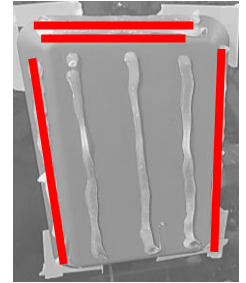

Figure 1. Silicone Area
1. Apply generous amount of silicones on the surface of vent cover except bottom area (See figure 1. Silicones should be closer to edge and thicker especially line areas).